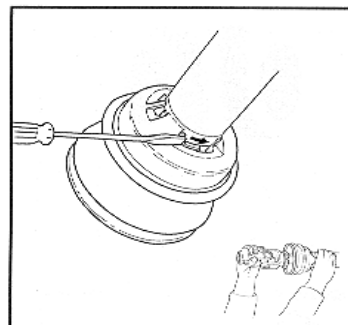

Figure 134: Turning Bearing
3. Turn the bearing in the direction as indicated in (Figure 134). Then, slide guard off the bearing.